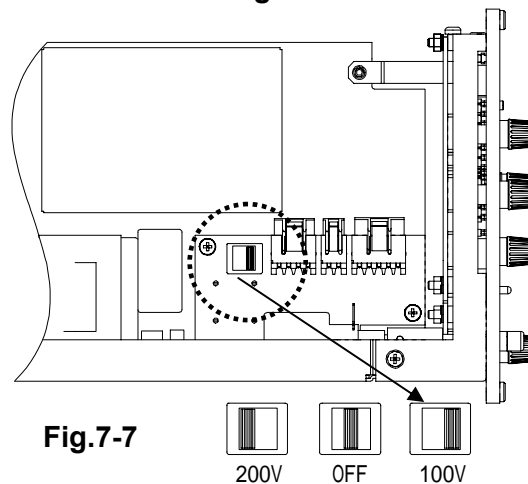

Fig.7-7
3. The AC power supply selection switch is positioned at the location shown in Fig.7-7. Selection to 200 VAC, OFF, and 100 VAC is available. Voltage switching is available by sliding the switch to the target voltage position. The fuse can support both 100 VAC and 200 VAC. The installed fuse (100 VAC/200 VAC, 100 mA: 0334-3006) can therefore be used for both supply voltages.